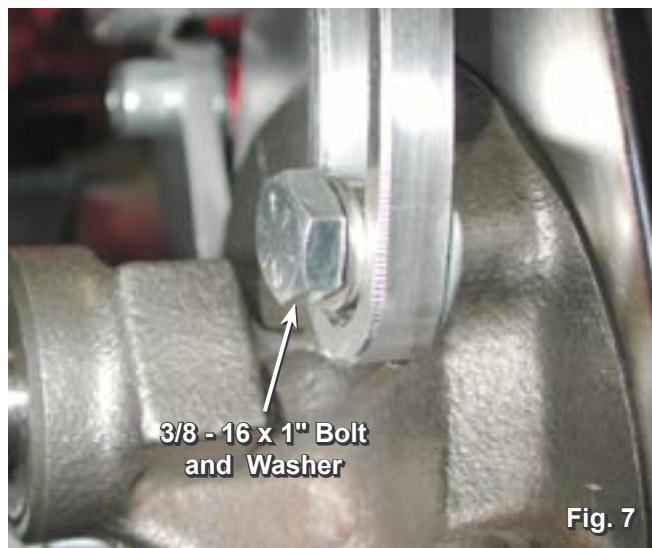

Fig. 7
7. Mount (20151-A) Power Steering Bracket to power steering pump using one (S312) 3/8-16 x 1" HHCS & one (S664) washer. (fig. 7) Leave loose for adjustment.